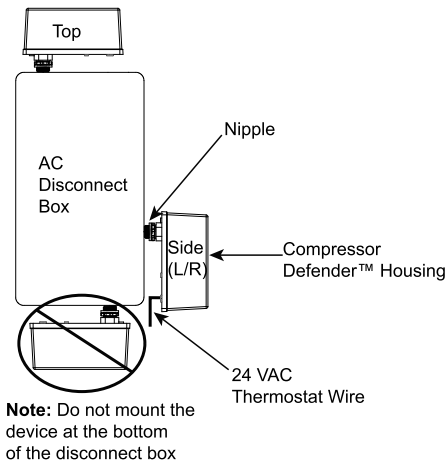

Figure 1. Installing *Compressor Defender™* to AC Disconnect Box.
2. Mount the *Compressor Defender™* making sure the 24 VAC wire is mounted below the nipple. See Figure 1.